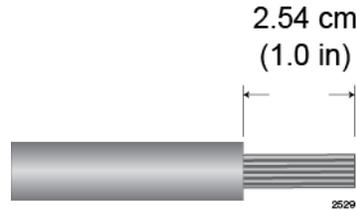

Figure 129. Stripping Solid or Stranded DC Power Wires
1. Prepare adequate lengths of two solid or stranded 8 AWG DC power wires by stripping them as shown in Figure 129.